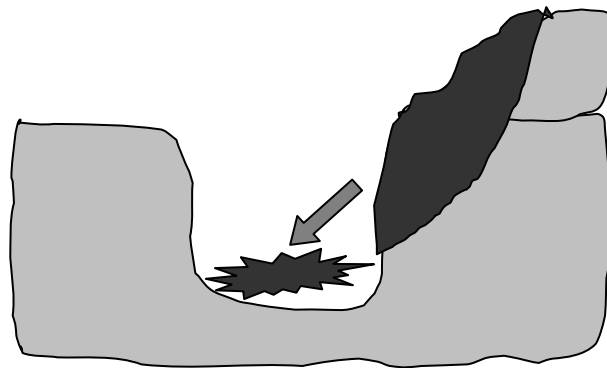

Figure 1-6
- Spoil Pile slide in (Figure 1-6)